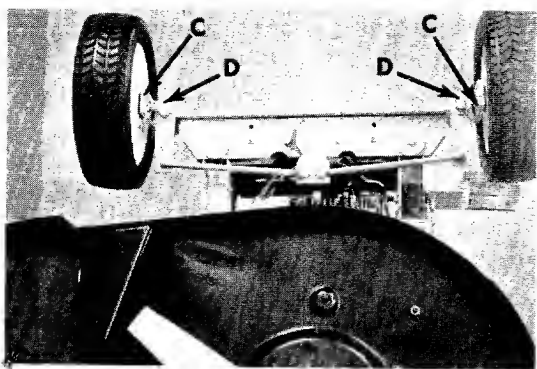

FIGURE 18. LUBRICATION
- b. **Front Wheel Bearings.** Once a season, remove the front axle bolts and coat the axle with a multi-purpose automotive type grease and reassemble. See figure 18.
- c. **King Pins.** Lubricate the king pins after every 25 hours of operation with SAE 30 oil. Wipe up excessive oil with a rag. See figure 18.